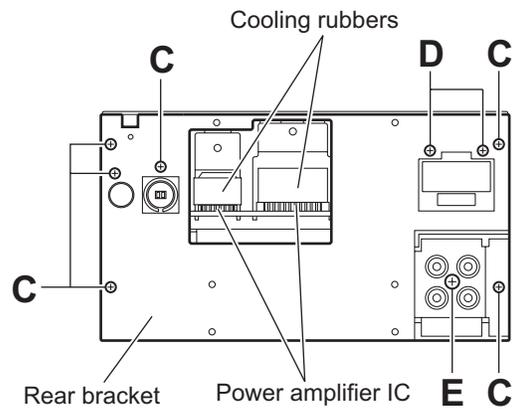

Fig.4
- Before attaching the heat sink, attach the cooling rubbers on the power amplifier IC. (See Fig.4)
(See Fig.4)